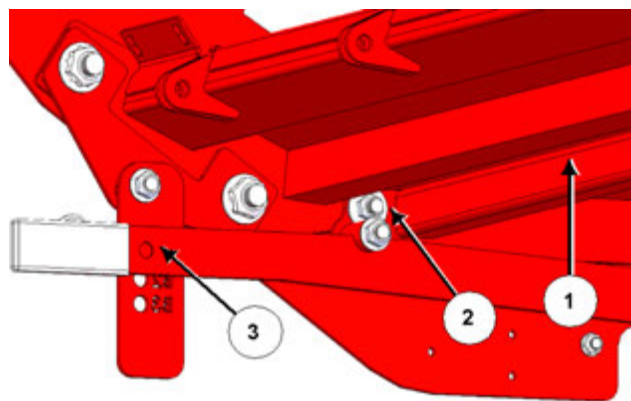

Figure 23: Re-install discharge door
4. If there is no feed chopper installed, re-install the discharge door (1); see *Figure 23*.
- a. Supporting the discharge door (1) in place under the machine, fasten discharge door to the front and rear tub walls using the previously removed hardware (2).
- b. Replace the spring pin in the door handle (3) to raise the door.